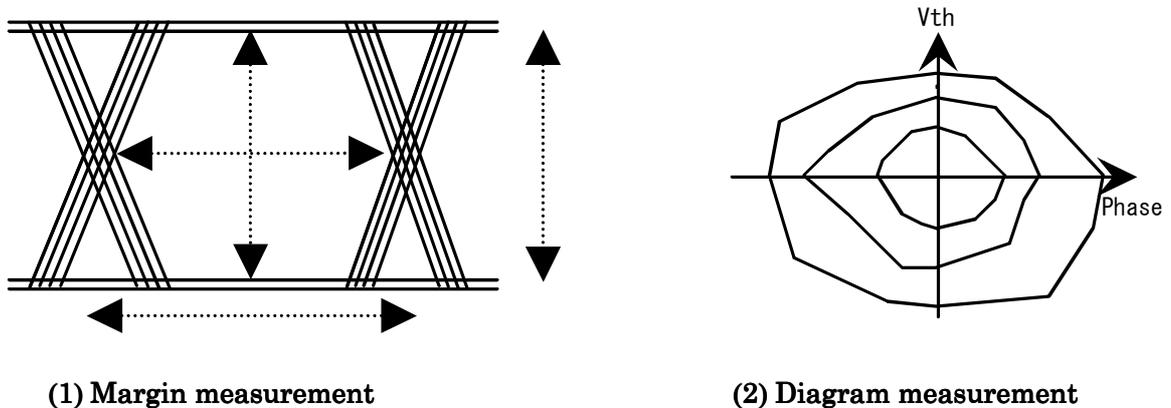

Fig. 6-4 Eye margin measurements
5. Select an error rate. Press the Select button to open the Threshold Select dialog box. After checking the error rate to be plotted in the two-dimensional space shown in Fig.6-4 (2), press the OK button to close the dialog box.